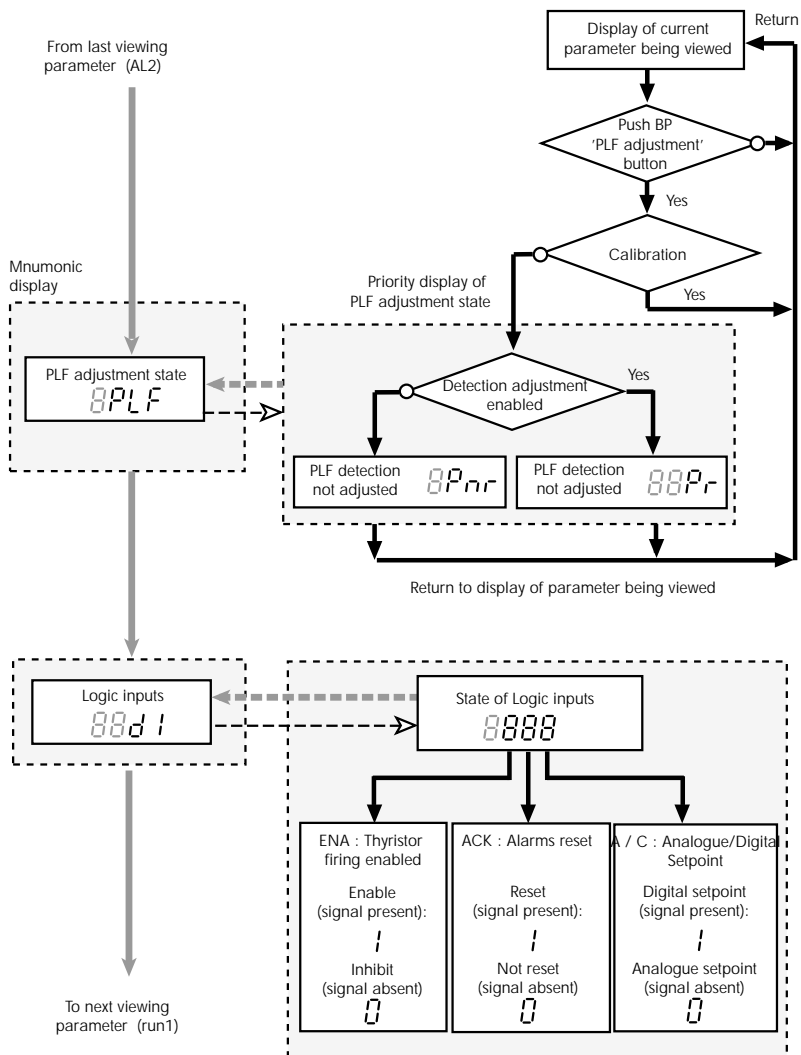

Figure 7-7 Controller state display message sequence
- One push of the PLF button (BPP) interrupts the normal message sequence to display data on the state of adjustment (adjustment or non-adjustment) of load failure detection (for details see Figure 7-7).